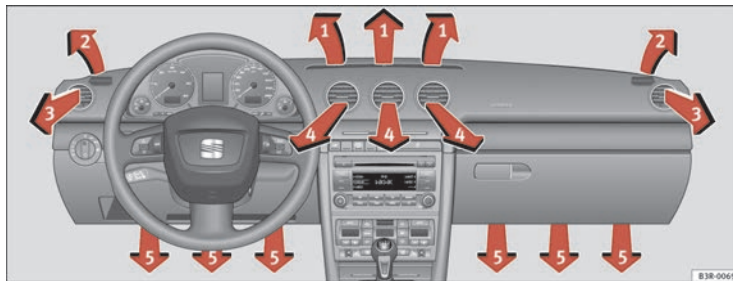

Fig. 134 Instrument panel: Location of air outlets
The air outlets $\Rightarrow$ fig. 134 ③ and ④ can be operated as follows:
Each of the three buttons has a specific function. The numbers relate to the air outlets ⇒ page 161, fig. 134.
After the ignition is switched off, the blower is supplied with electrical power from the solar roof. Please ensure that outlets 3 and 4 are open ⇒ page 161, fig. 134 to ensure the best possible ventilation.